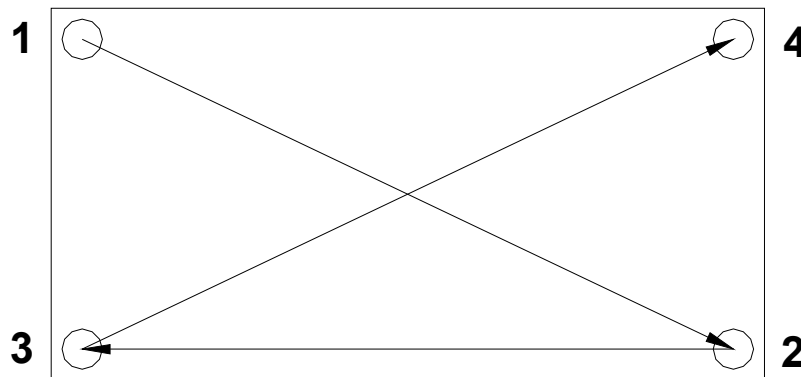

Figure 4 - Torque Sequence
- Torque pattern: Loosely insert all screws before torquing. If the power module has four mounting studs, it is recommended that the torque sequence be in a criss-cross pattern as shown in Figure 4. For modules with only two mounting studs, there is no torque sequence.